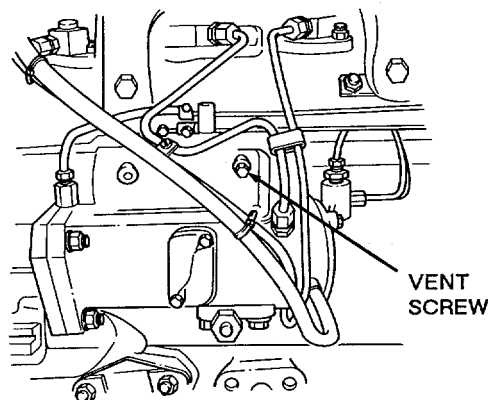

Figure 5-50. Injector Pump.
- (1) Refer to paragraph 4-42.
- (2) Loosen the vent valve on the governor control housing and the head vent screw (see Figure 5-50).